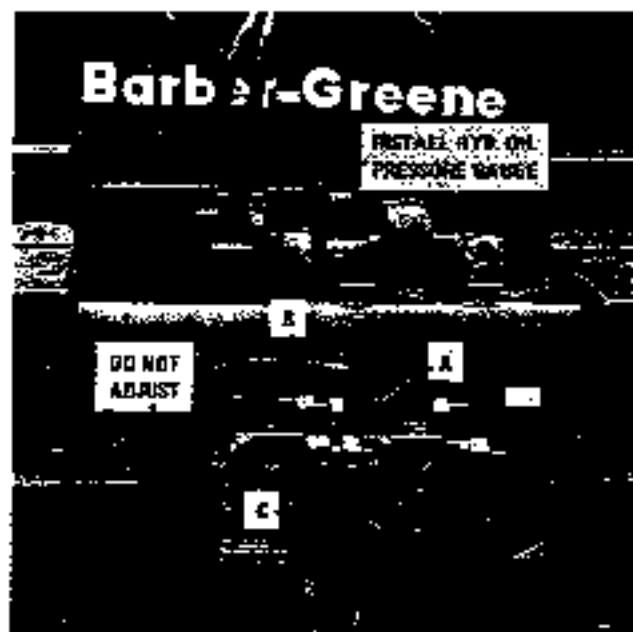

FIGURE 1-3 - Screed Crown Adjustment
1. Break chain (A) Figure 1-3, connecting the two sprockets of the crown control.
2. Remove a little of the crown in the leading edge of the screed using only the screw (B). It is best to make this adjustment while the machine is operating so the result can be watched.